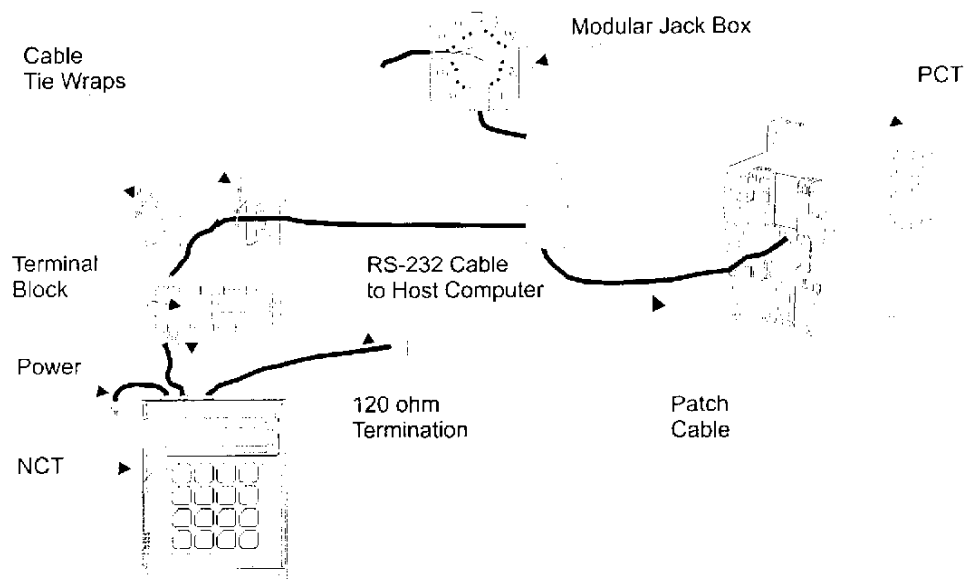

Figure 4 - NCT Cable Connections
| Figure 4 - NCT Cable Connections .....                   | 8  |
The cable between the PCT and the NCT should contain at least two pairs of 120 ohm twisted pair wire. The twisted pairs are color coordinated (i.e., blue, and white w/blue stripe). One twisted pair should be used to go from the NCT to the PCT location and another twisted pair for the return. The return twisted pair from the last PCT on the network must be terminated with a 120 ohm resistance-capacitance (RC) network as shown in Figure 4. This RC network is comprised of an 120 ohm resistor and a 0.1 micro-farad capacitor.